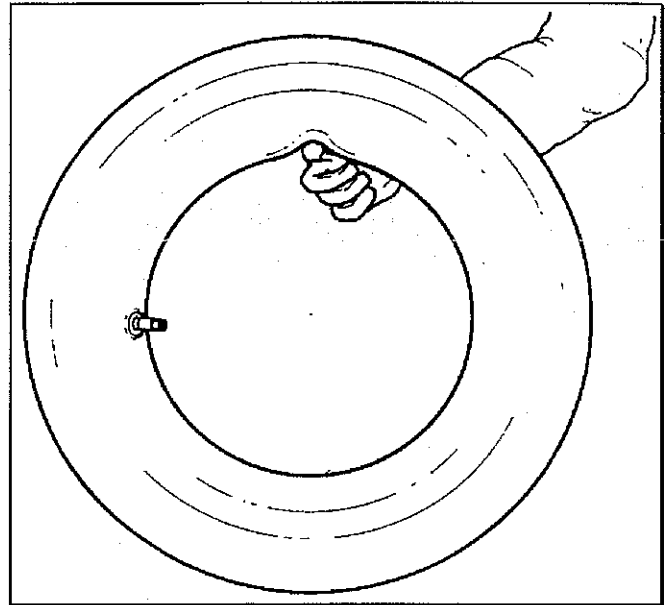

Fig.27
C. Inflate the tube slightly; if held with the index finger it should bend a little (Fig.27).